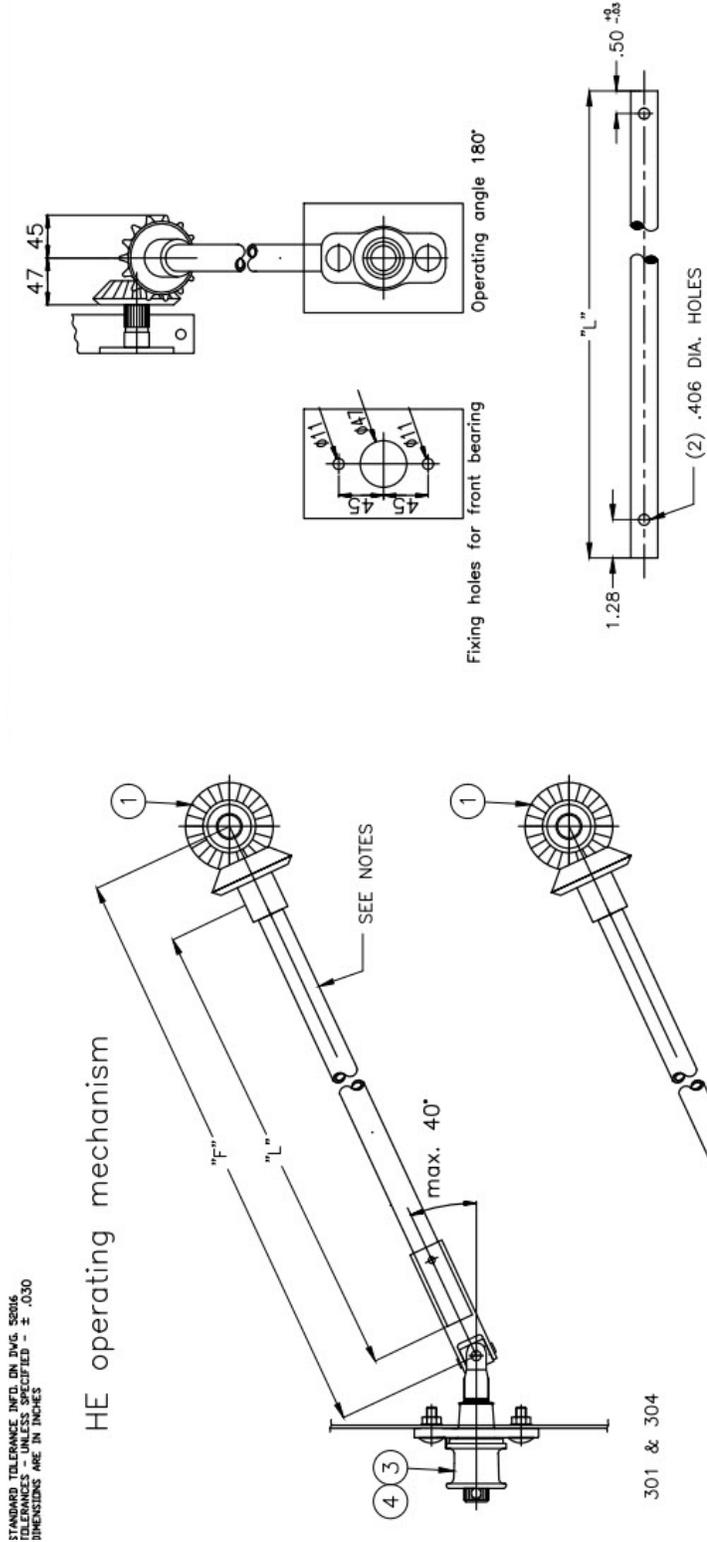

FIG. 1
3. LENGTH OF OPERATING ROD IS DETERMINED BY MEASURING THE DISTANCE "F" AND CALCULATING LENGTH "L"; L=F-5.34". THE OPERATING ROD IS DRILLED PER FIG. 1 AND MOUNTED BETWEEN BEVEL GEAR AND FRT. BRG./JOINT.